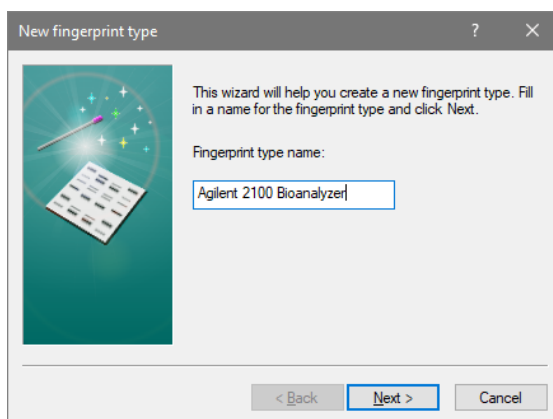

Figure 3.3: Specify a name.
- 2.2 Press **<OK>**, enter a name, for example “Agilent 2100 Bioanalyzer” and press **<Next>** (see Figure 3.3).